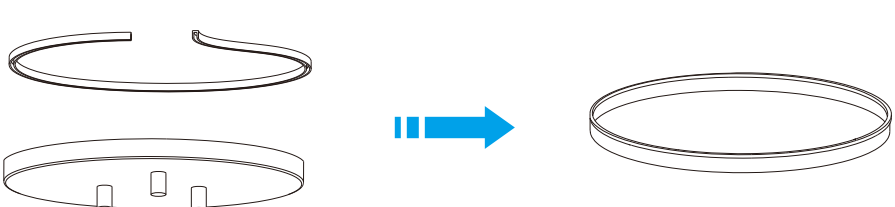

Fig 1.1
- Use the U-shaped silicone pad to wrap tightly the light kit plate as Fig 1.1